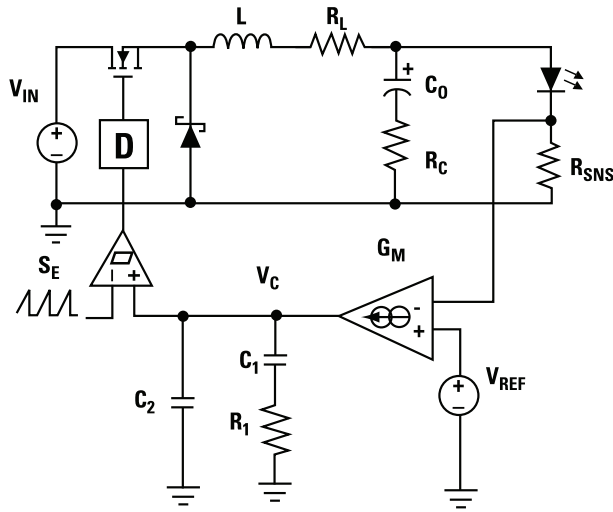
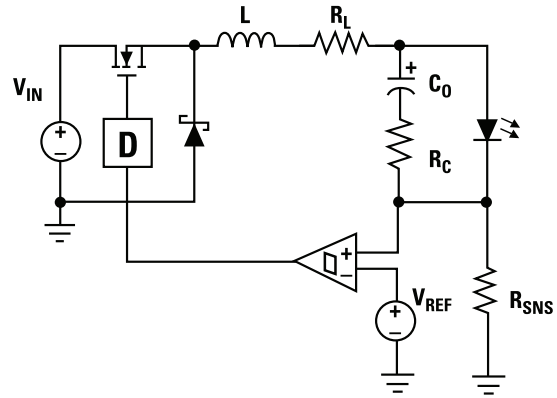

Figure 3a: PWM Regulator
Figure 3b: Comparator-based Regulator
For buck regulators that use PWM-based control, such as Voltage Mode (VM) and Current Mode (CM) the output capacitor should be connected from the regulator output to system ground, identical to a normal buck regulator. **(Figure 3a)** This way, the control-to-output transfer function of the system can be analyzed with the same equations used when designing a voltage regulator. When using comparator-based control, such as hysteretic or Constant on-Time (COT), the output capacitor should be placed in parallel with the LED array. **(Figure 3b)** In hysteretic voltage regulator circuits, this technique is often used to increase the percentage of in-phase voltage ripple at the feedback node. For the current regulator, it forces both the ripple current through  $C_o$  and the forward current through the LEDs to sum at the input to the switching comparator. The voltage waveform across  $R_{SNS}$  is therefore in-phase with the